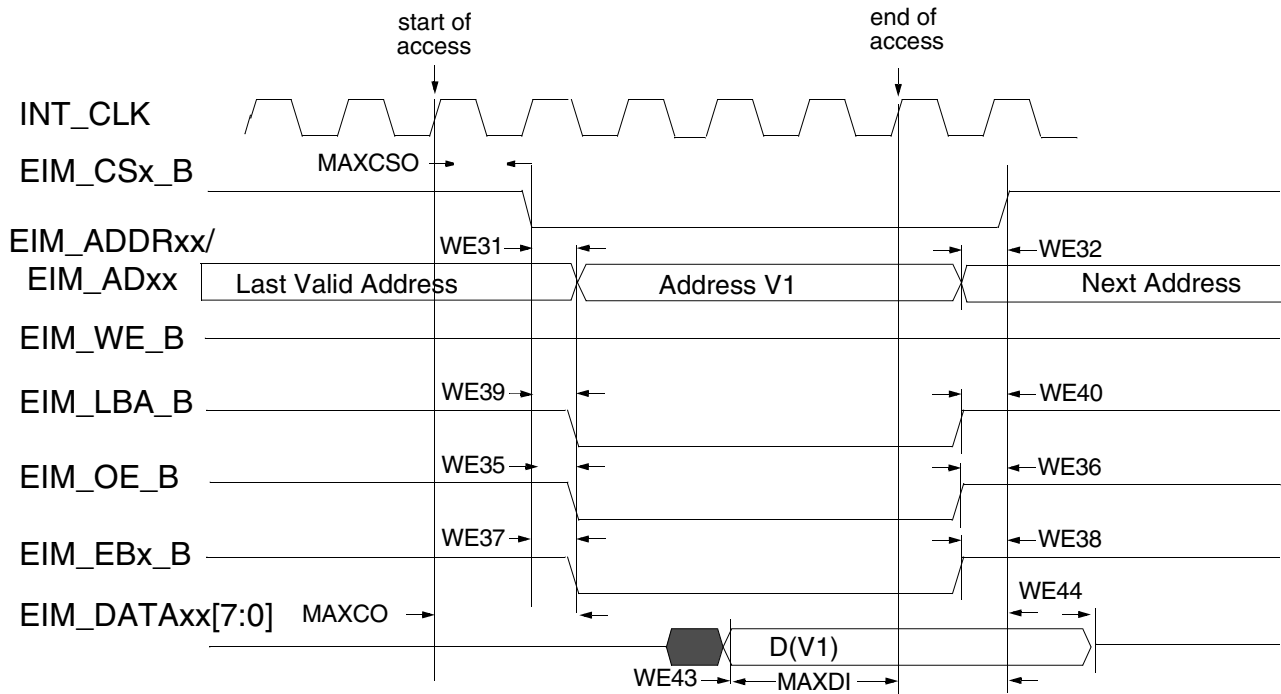
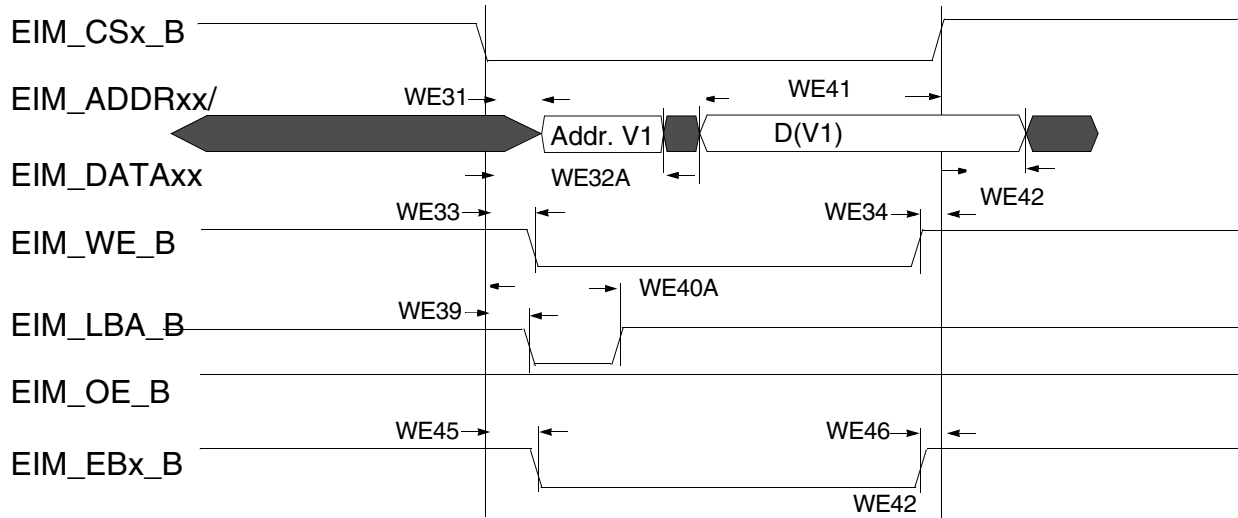
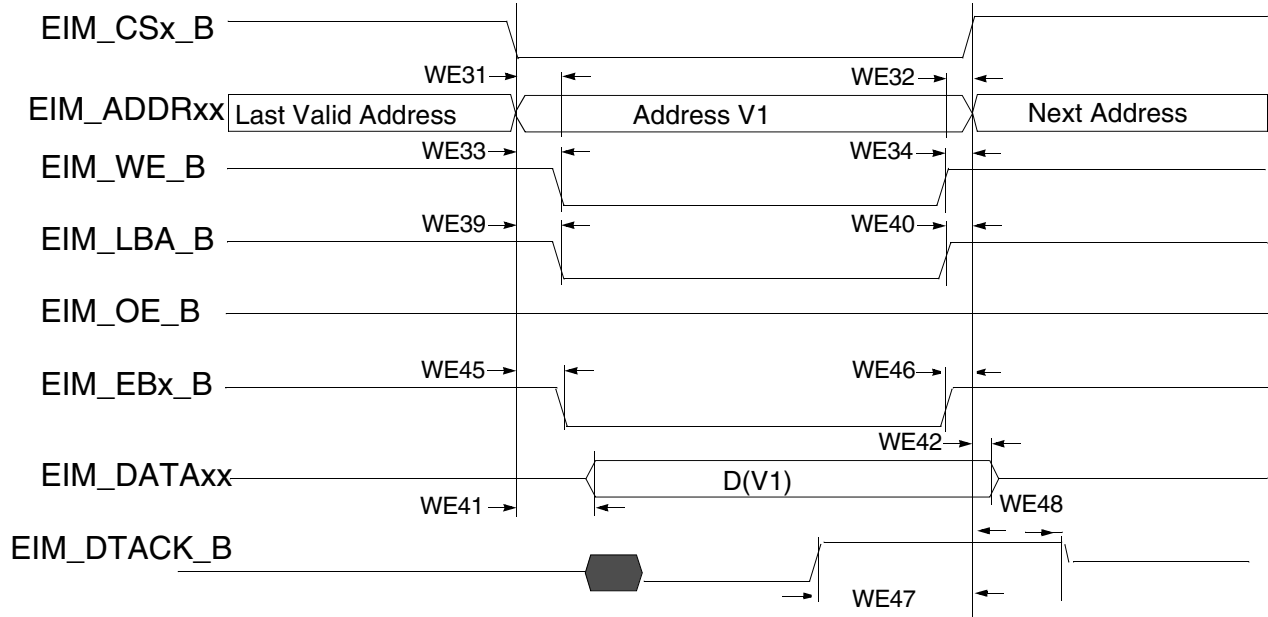

Figure 16. Asynchronous Memory Read Access (RWSC = 5)
Figure 19. Asynchronous A/D Muxed Write Access
Figure 21. DTACK Mode Write Access (DAP=0)
Figure 16 through Figure 21, and Table 46 help you determine timing parameters relative to the chip select (CS) state for asynchronous and DTACK EIM accesses with corresponding EIM bit fields and the timing parameters mentioned above.
Asynchronous read & write access length in cycles may vary from what is shown in Figure 16 through Figure 19 as RWSC, OEN and CSN is configured differently. See the *ii.MX 6SoloX Applications Processor Reference Manual (IMX6SXRm)* for the EIM programming model.